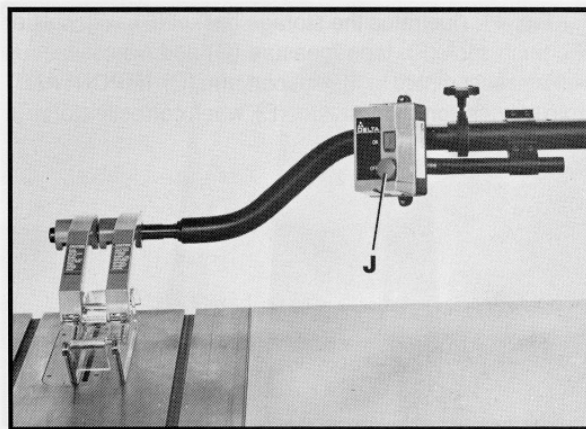

Fig. 45
6. Fig. 45, illustrates a Delta 10" Tilting Arbor Saw switch (J) mounted to the switch arm.